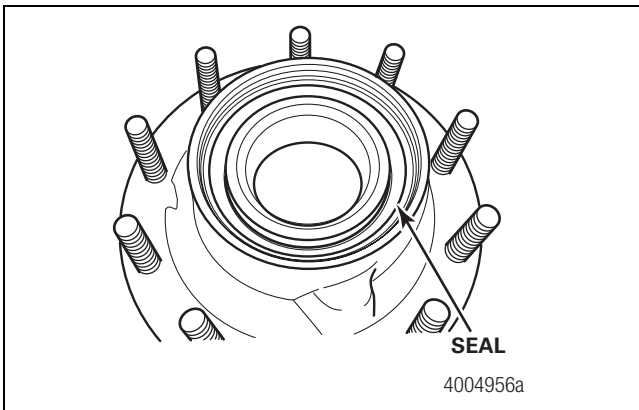

Figure 3.3
- The hub is a one-piece assembly containing non-serviceable bearings, seals and lubricant. Seals are located on the inboard and outboard sides of the hub. Figure 3.3.